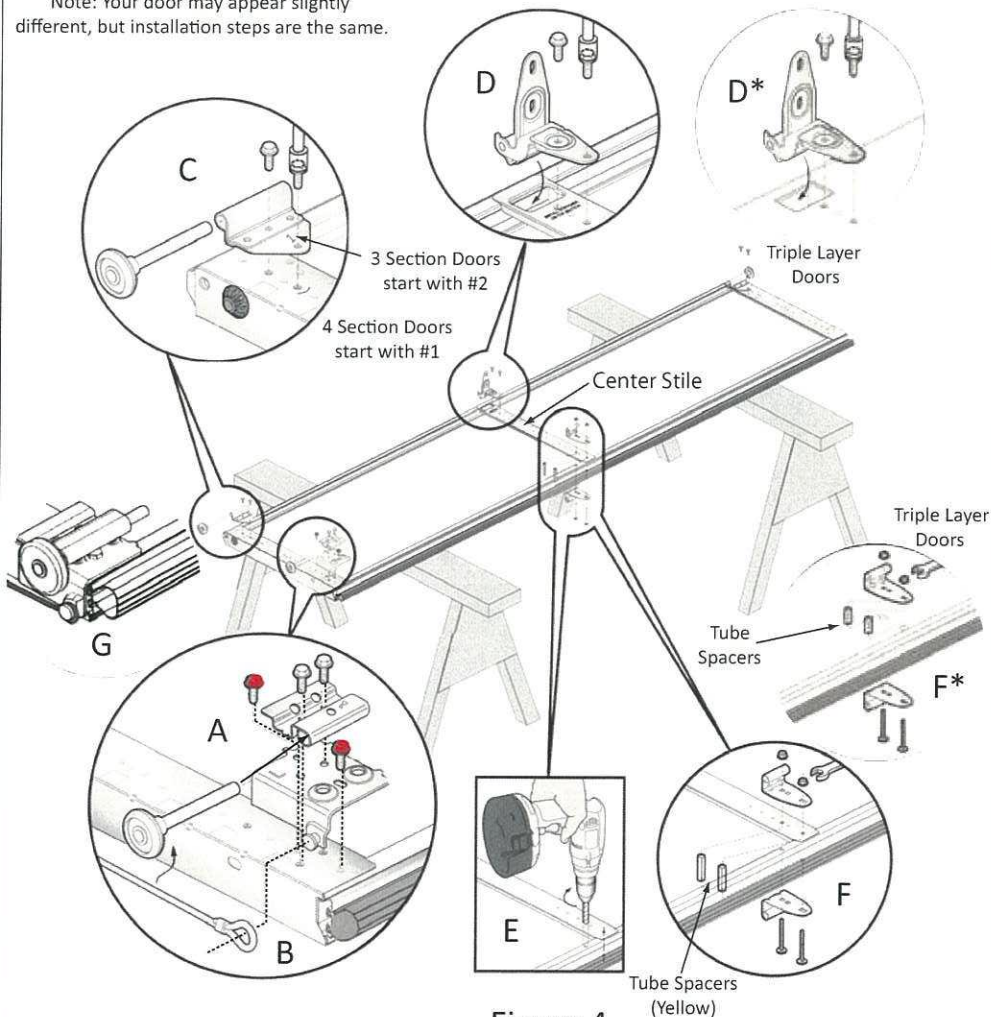

Figure 4
Locate the Safety Bottom Bracket assembly (Figure 2). Separate all four parts by snapping apart (Figure 3). Place the bottom section face down on a sturdy pair of padded saw horses (Figure 4). Attach the left Bottom Bracket Base to the bottom of the left end stile (Figure 4A) aligning with holes #20 & #23 (#15 & #18 on Triple Layer doors). Fasten the base with (2) 1/4" x 5/8" RED Universal Screws. Align the Bottom Bracket Roller Carrier with the matching holes in the base and attach with (2) 1/4" x 5/8" Universal Screws. Insert the Roller into the Bottom Bracket Roller Carrier (Figure 4C). Repeat this procedure for the right end stile.